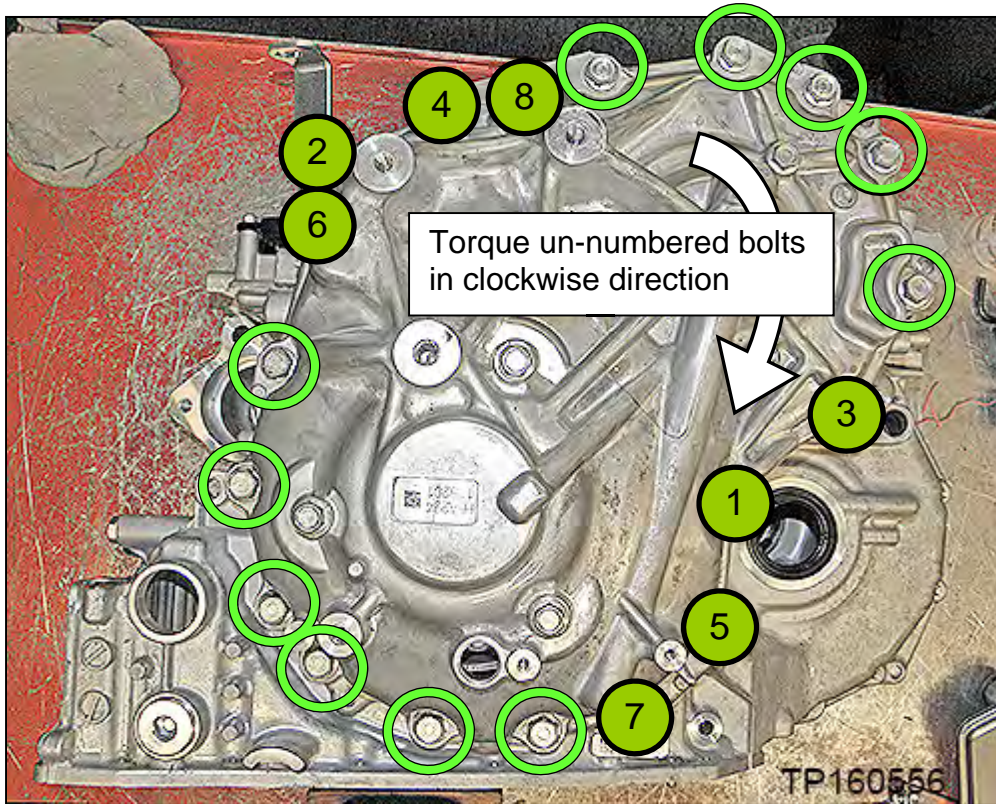

Figure 105
79. Install the new side cover bolts (Figure 105).
- Torque the first eight (8) bolts marked as ● in the sequence numbered in Figure 105 below, and then torque the rest of the bolts in a clockwise direction.